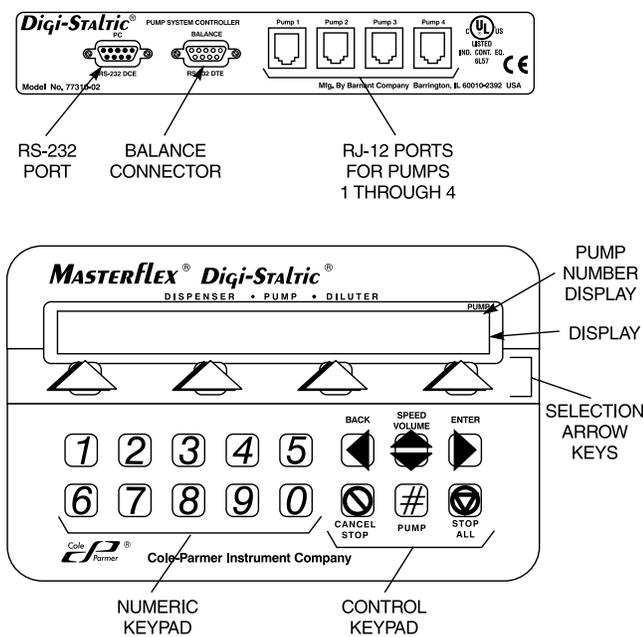
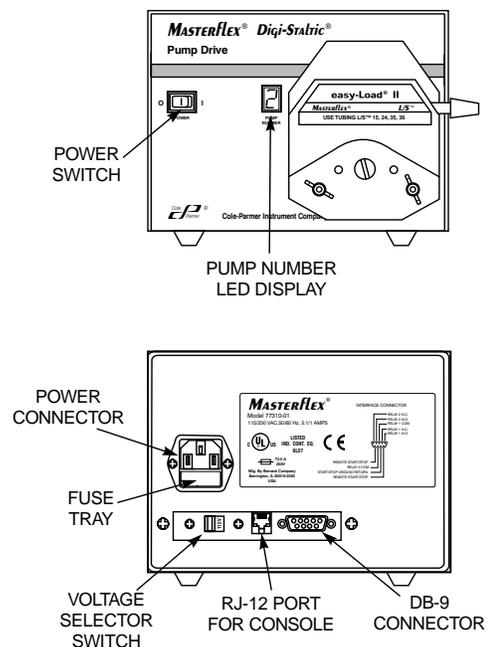

Figure 2. Control Console
Figure 3. Pump Drive Controls, Connectors, and Indicators
All the controls, connectors, and indicators on the control console are shown in Figure 2. All connectors are located on the back panel. Figure 3 illustrates a pump drive, showing the power switch and display on the front, and the connectors on the back. Table 2 lists all the operator controls and indicators.
After the control console and all the pump drives are properly connected and the drives are plugged into an AC source, the system may be powered up. Refer to Figure 2, and place the POWER switch on one of the pump drives in the On (I) position. The pump number appears on the LED display. The welcome screen appears on the control console.